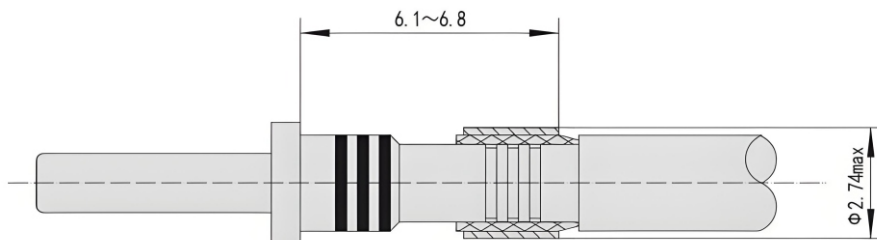

Figure 1.7
⑦ As shown in Figure 1.7, move the crimp sleeve forward onto the cable shielding layer, with the position dimension set to 6.1~6.8. Cut off the excess shielding layer that extends beyond the shielding crimp sleeve. Use tool M22520/4-01 and locator M22520/4-02 to crimp the crimp sleeve: crimp once, then rotate the contact 45 degrees and crimp again. After the second crimping, the diameter of the shielding crimp sleeve must not exceed 2.74.